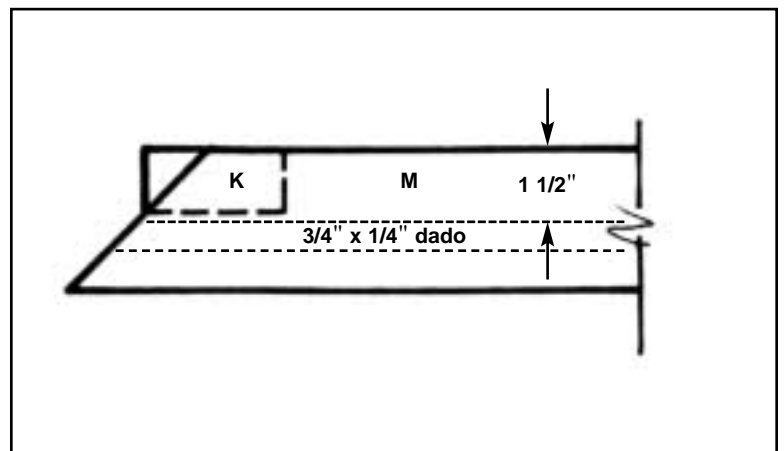

Figure 10
13. Use wood screws or nails and glue to attach (M) to (K). See Figure 10 for proper mounting location.